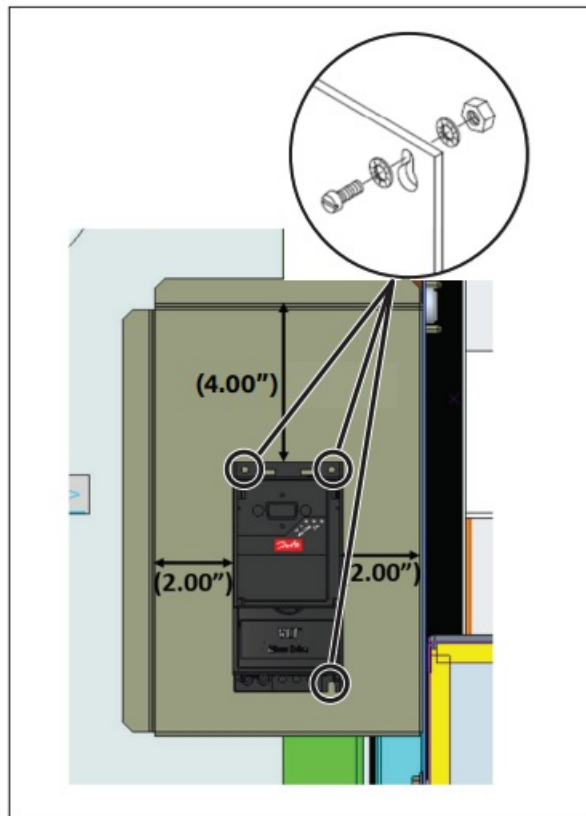

Figure 9: Placement of VFD inside the sheet metal bracket
3. Mount the VFD to the shield/ sheet metal bracket. See Figure 9.